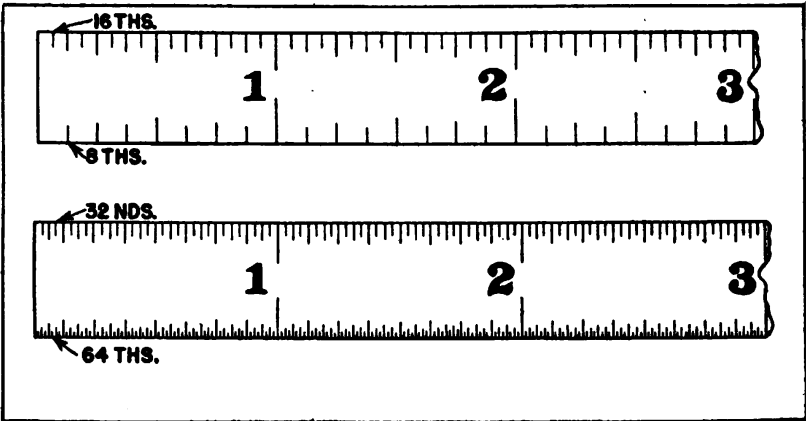
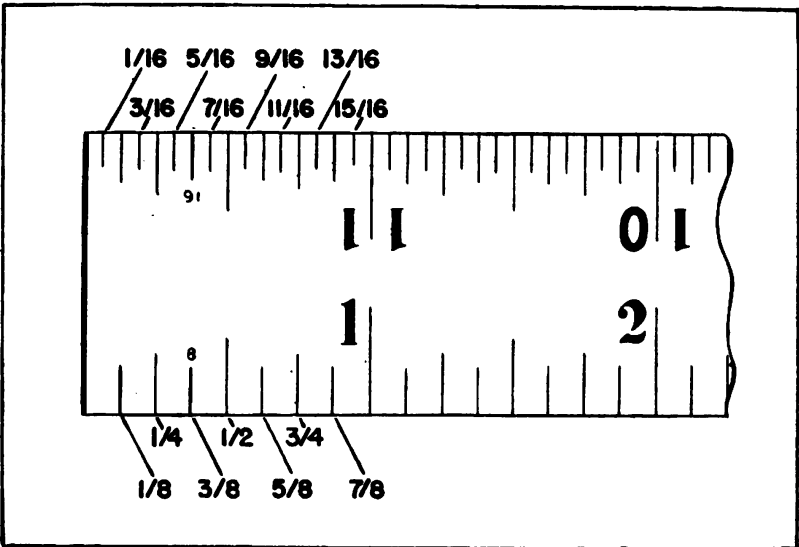
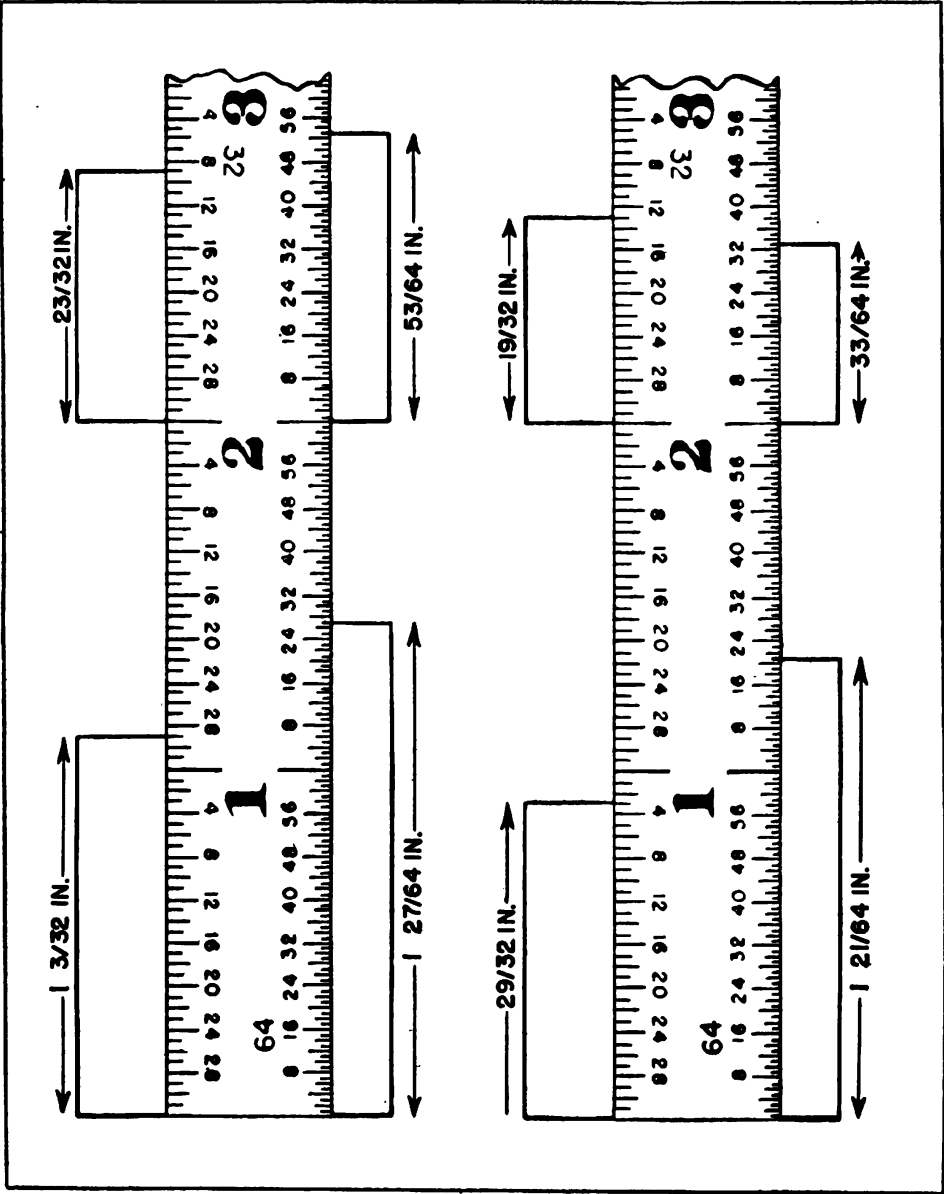
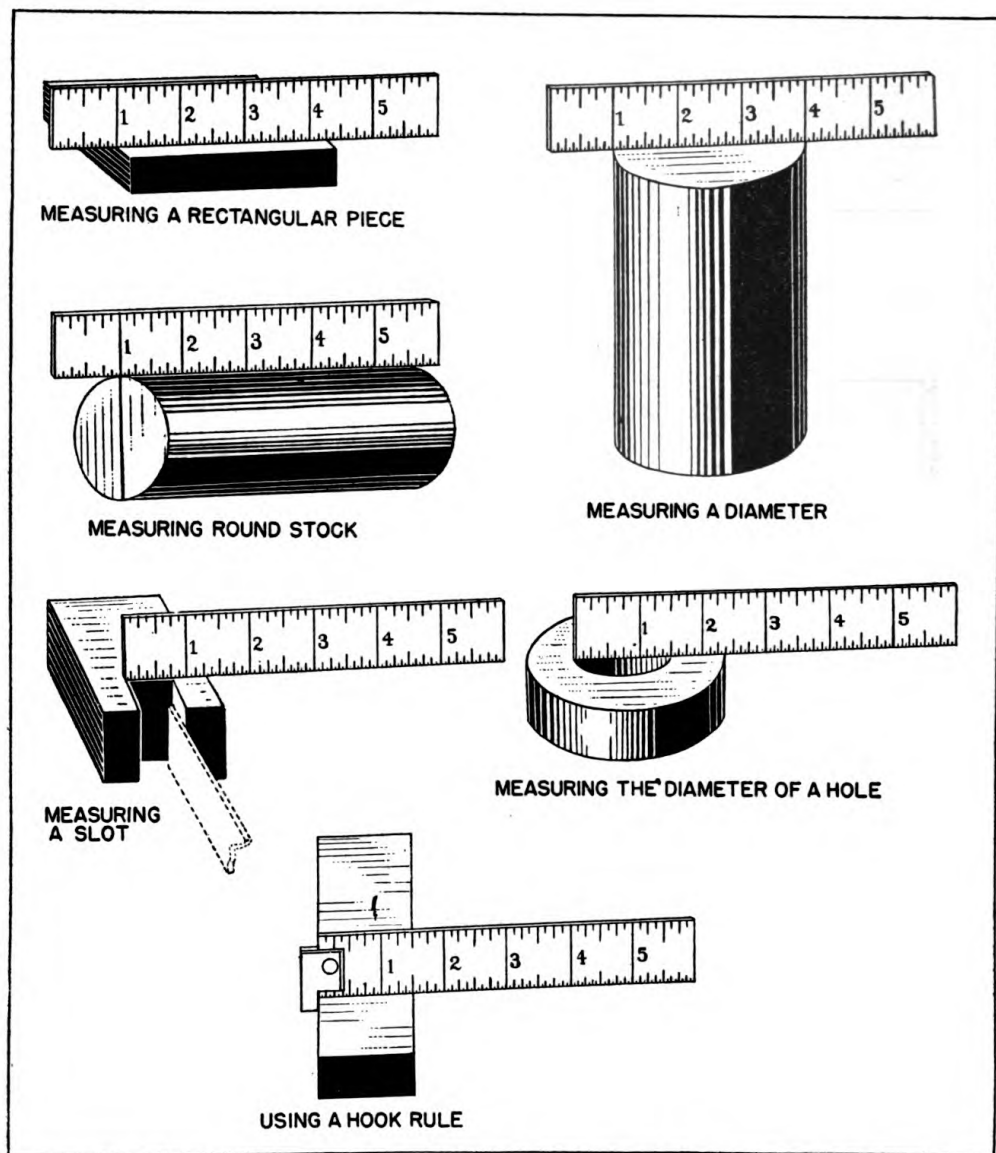

FIGURE 80.—Two sides of 6-inch rule.
FIGURE 81.—Readings on 6-inch rule.
FIGURE 82.—Practice measurements for 6-inch rule.
FIGURE 83.—Applications of 6-inch rule.
c. Using rules.—Because the mechanic must use rules of various kinds so frequently, it is important that he become thoroughly familiar with the usual graduations, and be able to read them quickly and accurately. Once the most often used 6-inch rule is understood, the use of other types becomes merely a question of applying them to the work at hand. Ordinarily, the four available edges of a 6-inch rule are graduated in 8ths and 16ths of an inch on one side and in 32nds and 64ths on the other. Figure 80 shows the two sides of such a rule. The following procedure is recommended for learning to read it: first, learn the 8ths and 16ths, then the 32nds and 64ths, and become thoroughly familiar with the readings shown in figure 81. Practice in reading measurements similar to the examples in figure 82 will soon enable the student to obtain accurate measurements very quickly with any type of rule. Figure 83 shows the usual methods of measuring work of several common shapes.